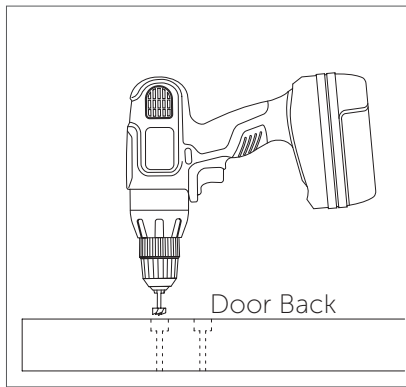

Figure 4
7. Turn the door over. Using a 1-1/8" Forstner bit\*, drill a 7/16" deep hole into each pilot hole (Figure 4).